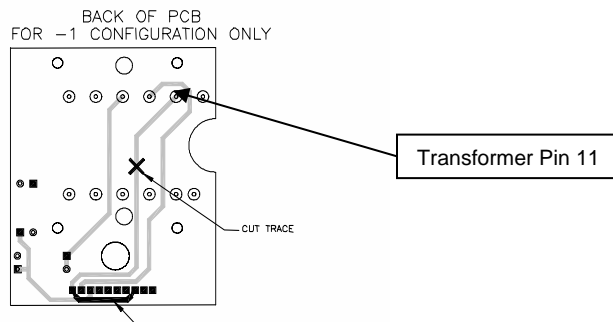

Figure 2
- N. On the non-component side of the transformer circuit board cut the trace going to pin 11 of the transformer. Refer to figure 2.